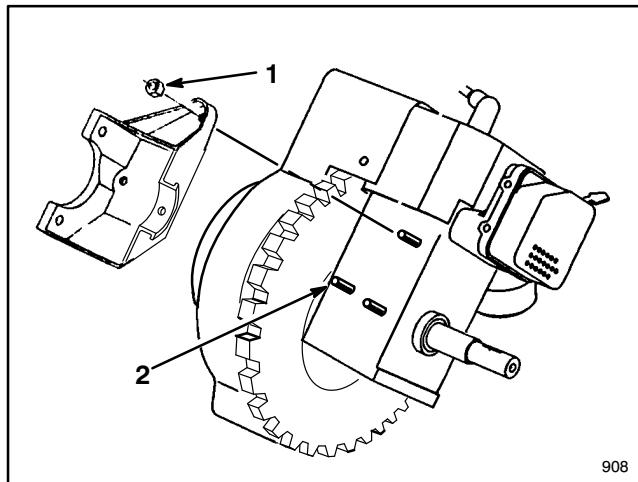

Figure 6
3. Screw (2)
6. Remove (3) three fasteners securing motor mounting bracket to engine.
- A If bracket was secured to engine with studs and nuts (Fig. 6), remove (3) three nuts and bracket. Then remove right hand stud (nearest to flywheel) (Fig. 6) using a vise grip.